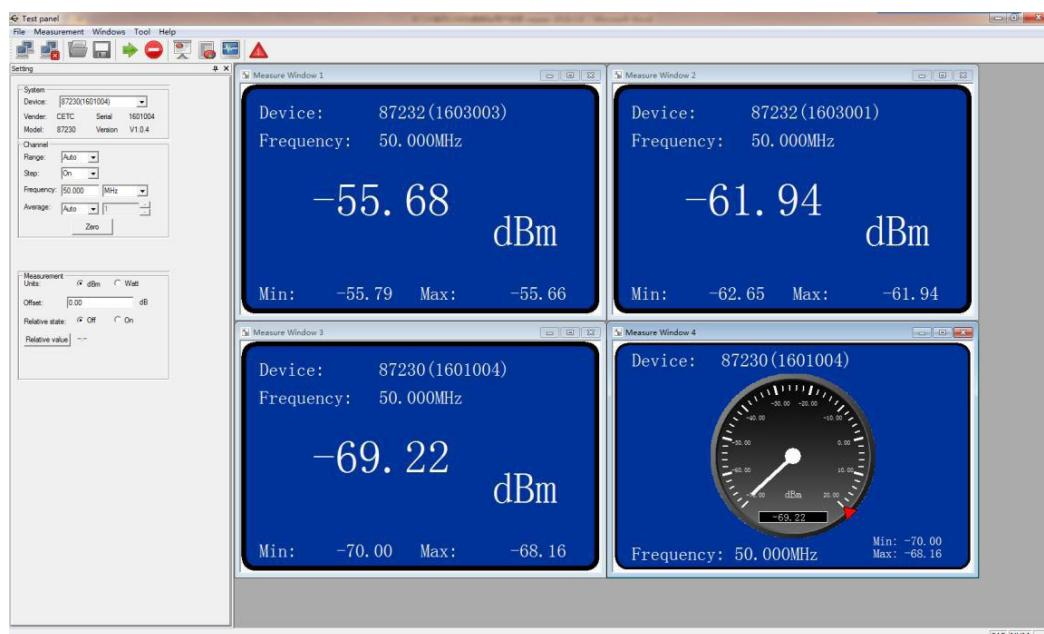

Fig. 3.6 Measurement window connected with multiple USB CW power sensors
**Step 2.** Click  or  button of the toolbar, and open the measurement result of other power sensor in form of value display or analog display, as shown in Fig. 3.6;